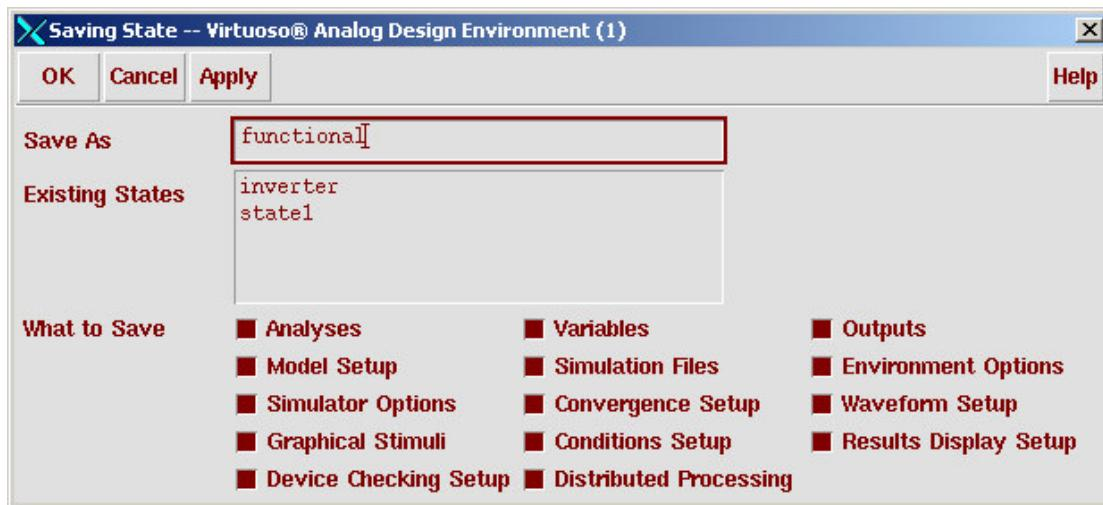

Figure 18. Saving Functional Simulation Results
2. Use the name of **functional** for the session as shown in Figure 18.